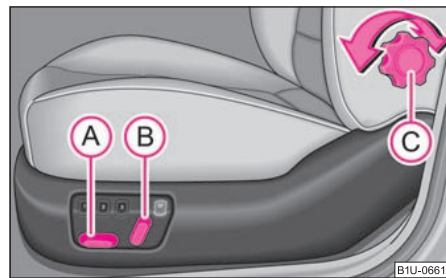

Fig. 60 Side view: Controls for adjusting the seat
- Press the switch ① or ② in the direction of the desired setting ⇒ fig. 60.